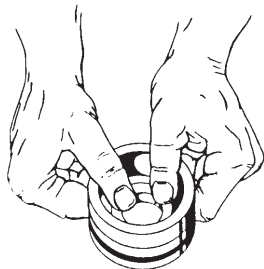

Figure 4-12
20. Carefully press seal seats (#12.5B) into both seal cups (#2B). (refer to figure 4-12) A clean soft material should be used between the seal face and pressing tools. The smoothest side of the seat should face up. Caution: Dirt and scratches can quickly ruin seals.